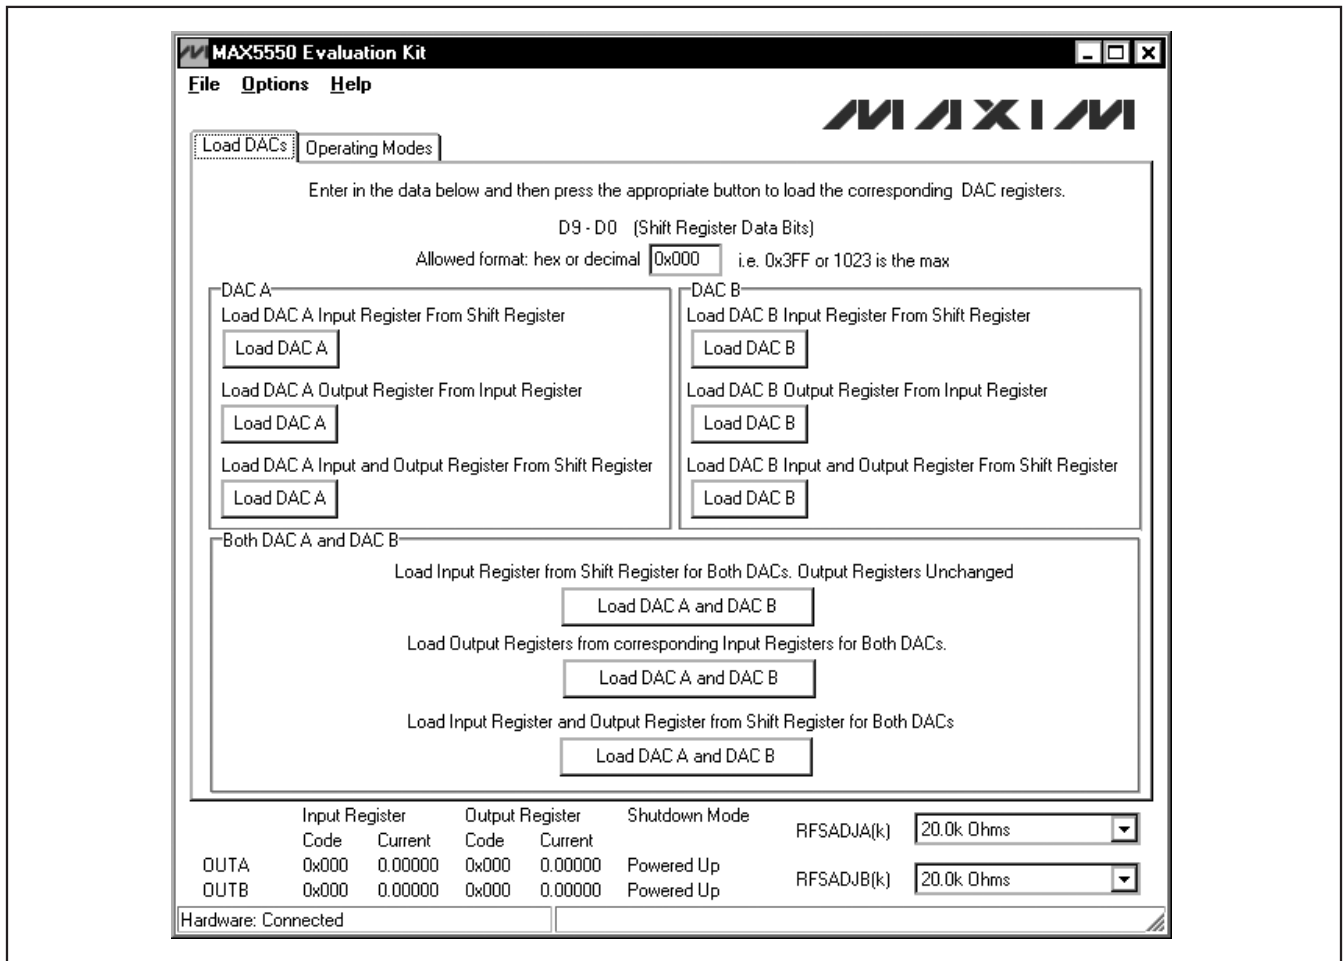

Figure 1. MAX5550 EV Kit Software Main Window (Load DACs Tab)
- 6) Start the MAX5550 EV kit software by opening its icon in the **Start | Programs** menu. The EV kit software main window appears, as shown in Figure 1.
The main window of the evaluation software (Figure 1) displays the current and code for all DAC input and output registers. In addition, the main window has two